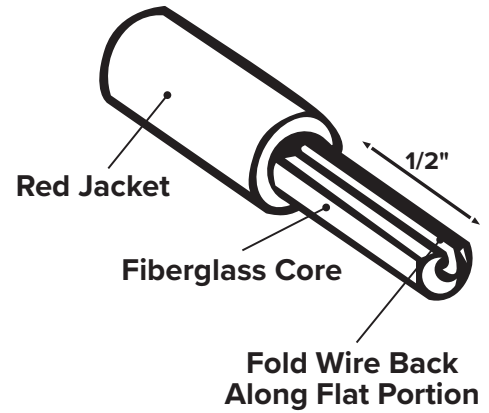

Fig. 2
3. Insert end of fiberglass rod between the upper and lower nylon safety roller guides (Fig. 2). This ensures duct rod will be safely contained while working with it.
3. Using sharp knife, strip away flat spot on remaining exposed fiberglass core approximately as deep as wire diameter. Cut exposed wire length according to above chart and lightly strip away thin coating on copper wire. Fold wire back along flat spot in fiberglass core (Fig. 2).